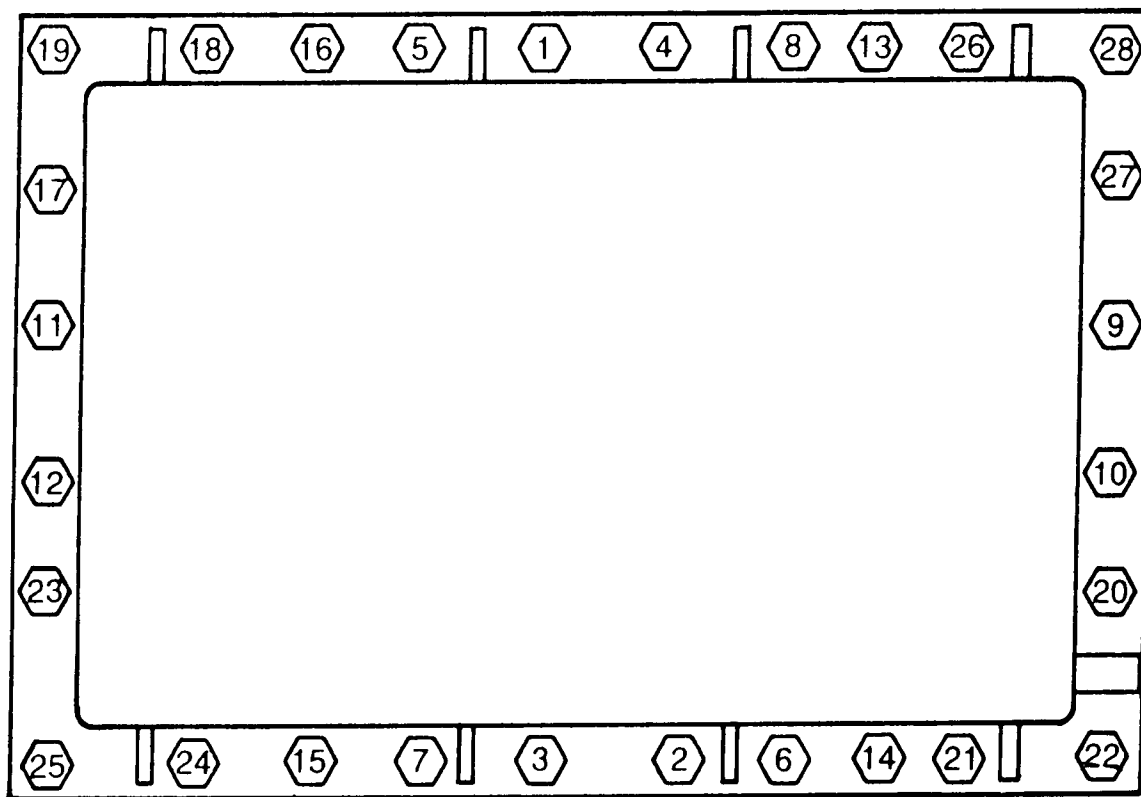

Figure 5-3. RF-2601 Cover Bolts Tightening Sequence
- See figure 5-3 for Fault Indicator (F0 through F3) locations. Indicator sequence (left to right) is in binary representation.
- See figure 5-3 for Test Status Indicator A7DS5 location.
1. See figure 5-3 for Fault Indicator (F0 through F3) locations. Indicator sequence (left to right) is in binary representation.
2. See figure 5-3 for Test Status Indicator A7DS5 location.
- f. Tighten the cover bolts to 70 inch-pounds (0.81 kg-m) torque, in the sequence shown in figure 5-3.